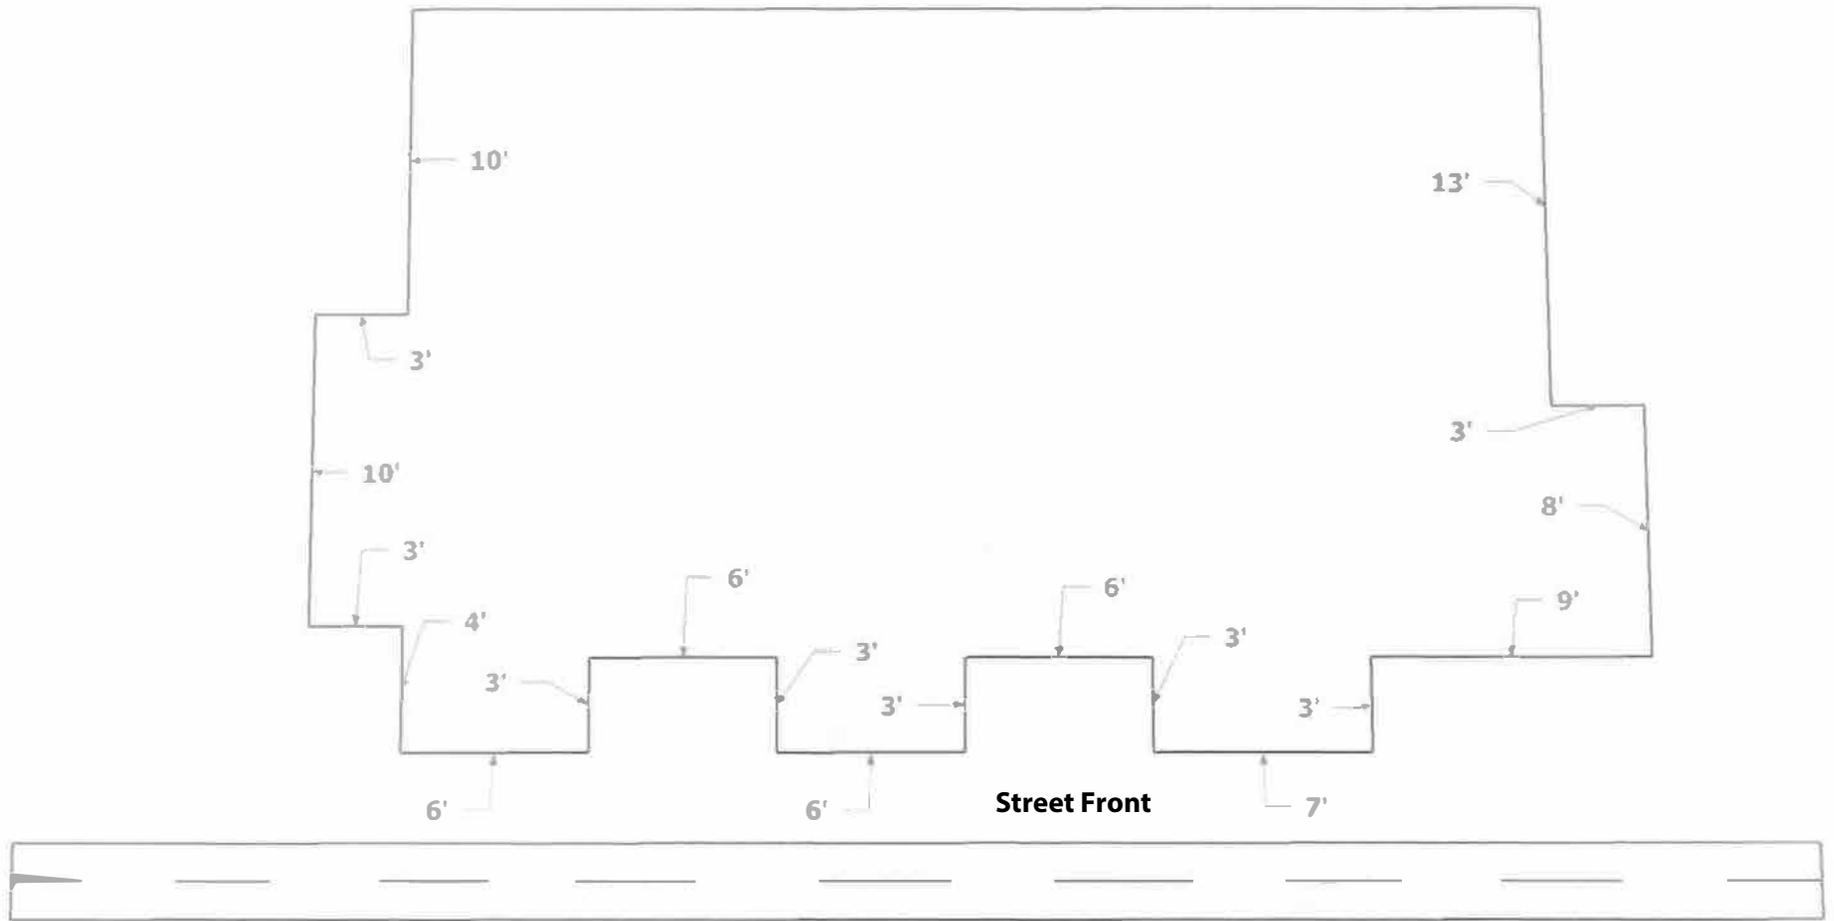

Figure 3
- e. When a wall section does not meet requirements of a, b and c above, the plane shall be considered one wall section (see Figure 3).